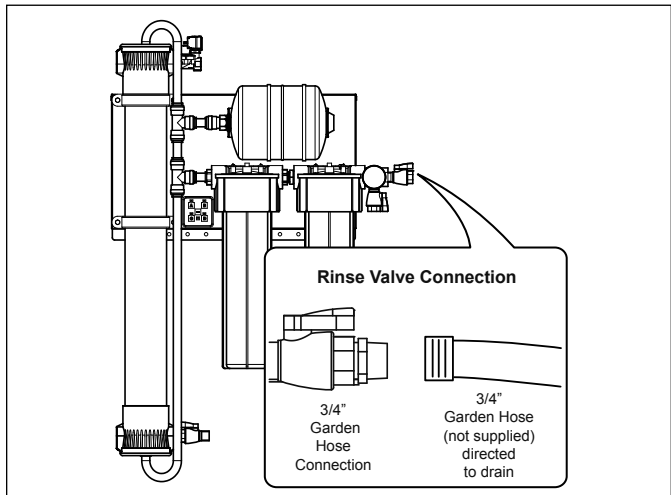

Figure 5. Rinse Valve Connection
3. Connect the hose to the Rinse Valve fitting. Use a back-up wrench on the fitting if required (Figure 5).